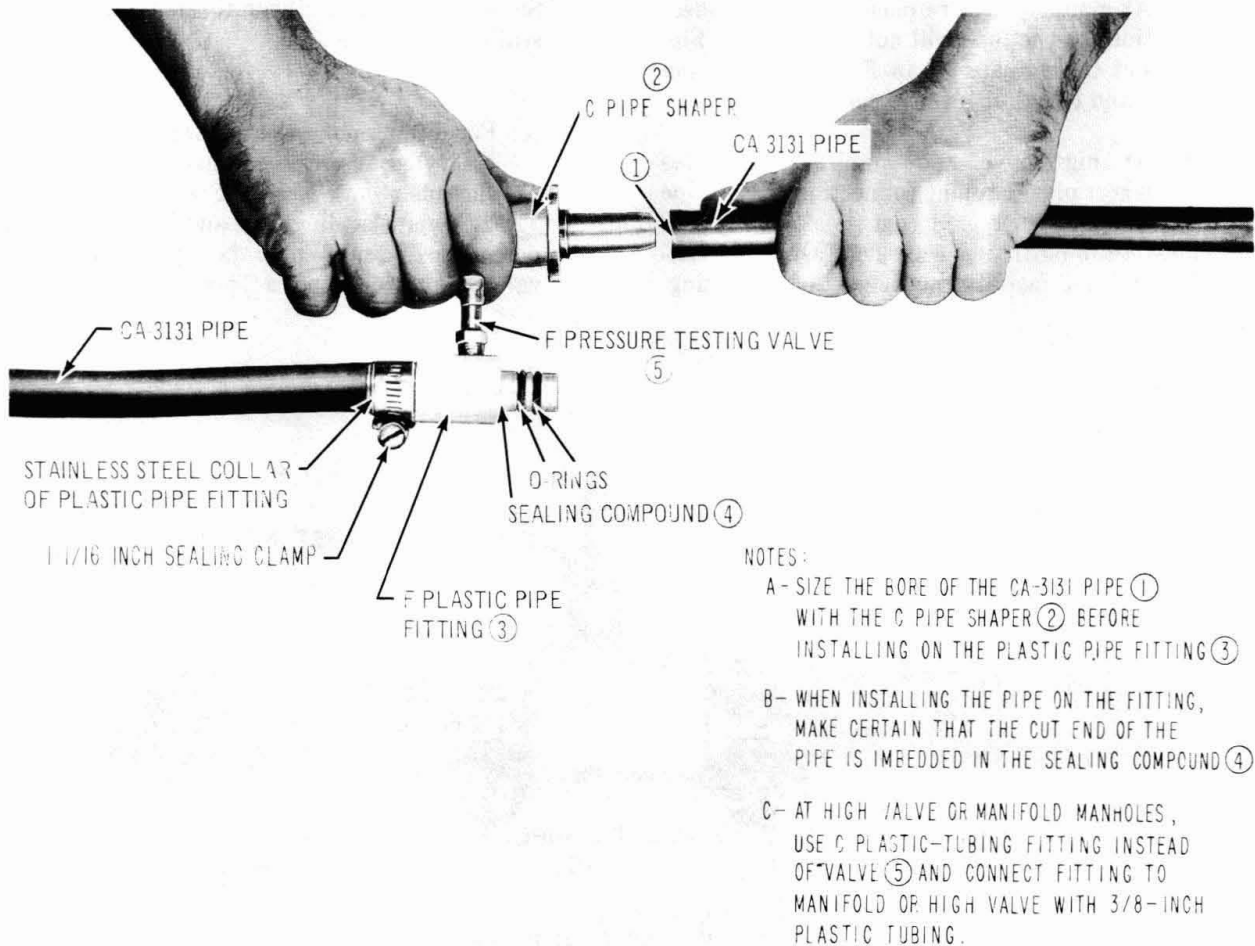

Fig. 3—Connecting Two Sections of CA-3131 Air Feeder Pipe
5.03 Referring to Fig. 3, permanent connections are made to the CA-3131 air feeder pipe as follows:
- (1) Expand the bore of the pipe with the C pipe shaper (Fig. 3), just as installing a plastic pipe fitting.